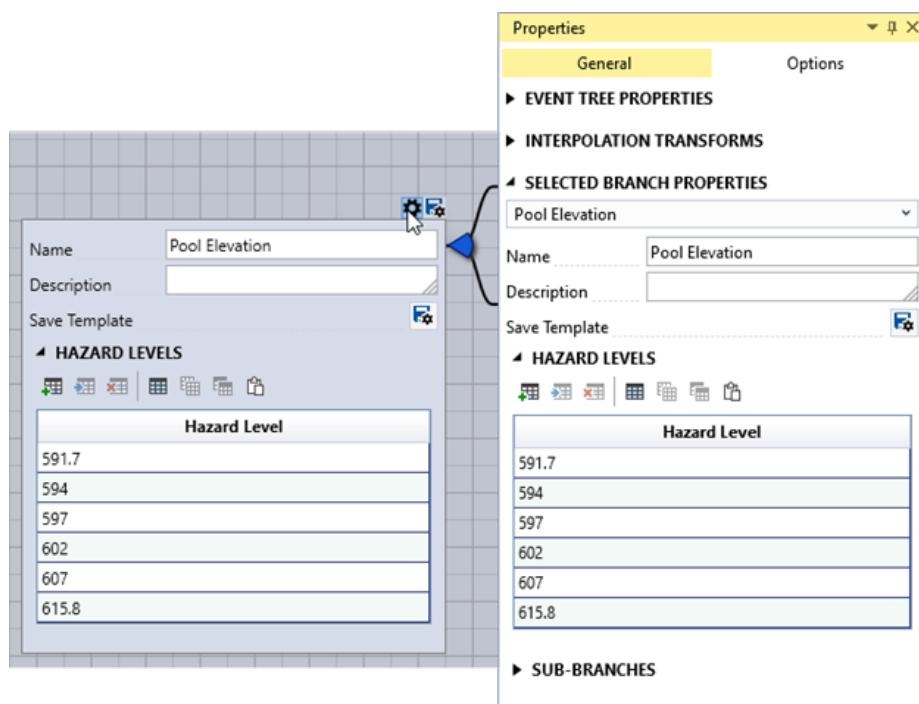

Figure 8.6: Edit the node properties from either the node toolbar or Properties window.
1. **Define the hazard.** Select the initiating hazard node branch, **Hazard**, by clicking on it. Once selected, edit its properties in the Properties window under the Selected Branch Properties subsection (Figure 8.6). Alternatively, click the **Branch Properties** button  in the event tree node toolbar to edit the branch. Rename the branch to “Pool Elevation.”